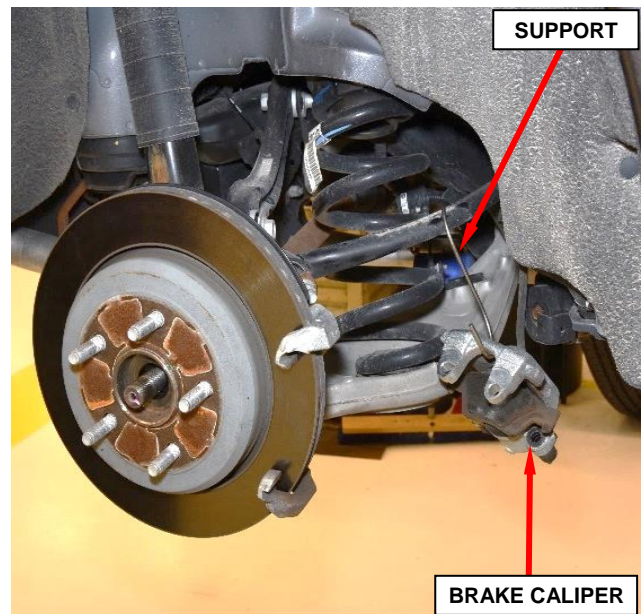

Figure 4 – Support Brake Caliper
7. Remove the brake caliper from the brake caliper adapter and support the brake caliper so that no weight is applied to the brake hose (Figure 4).